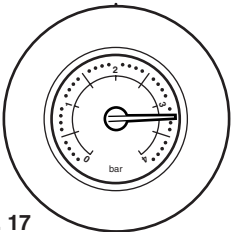

Fig. 17
3. A pressure of 3 or greater indicates a fault. The safety pressure relief valve will operate, at a pressure of 3 (Fig. 17). **It is important that your Service Engineer is contacted as soon as possible.**